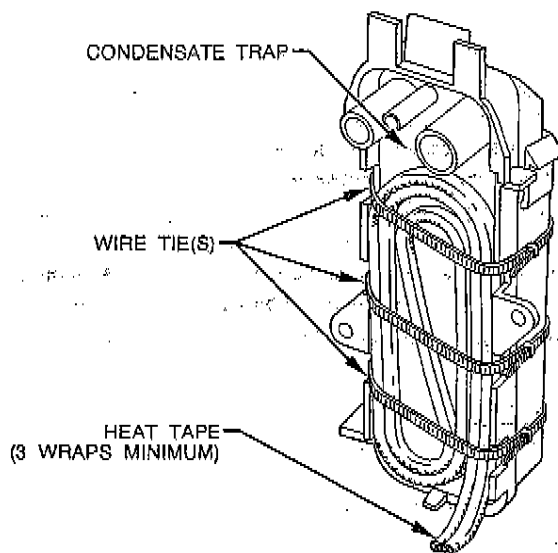

Fig. 40—Condensate Trap Heat Tape
2. Locate heat tape between sides of condensate trap back. (See Fig. 40.)
3. Use wire ties to secure heat tape in place. Wire ties can be positioned in notches of condensate sides. (See Fig. 40.)